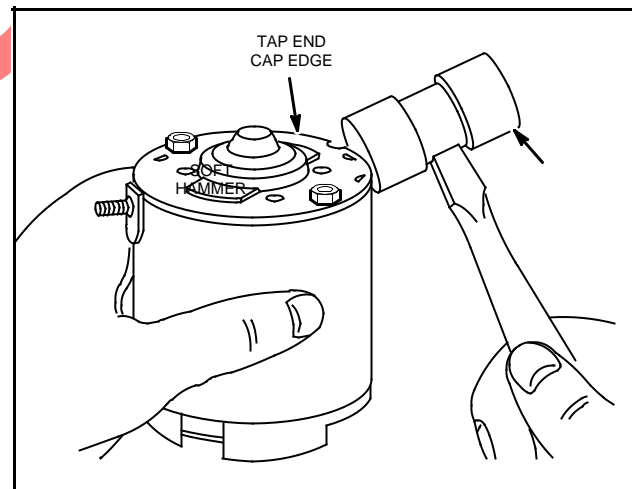

Fig. 675 - ALIGNING BEARINGS
9. Tap edge of end cap using a soft hammer to align motor bearings if required, Fig. 675.